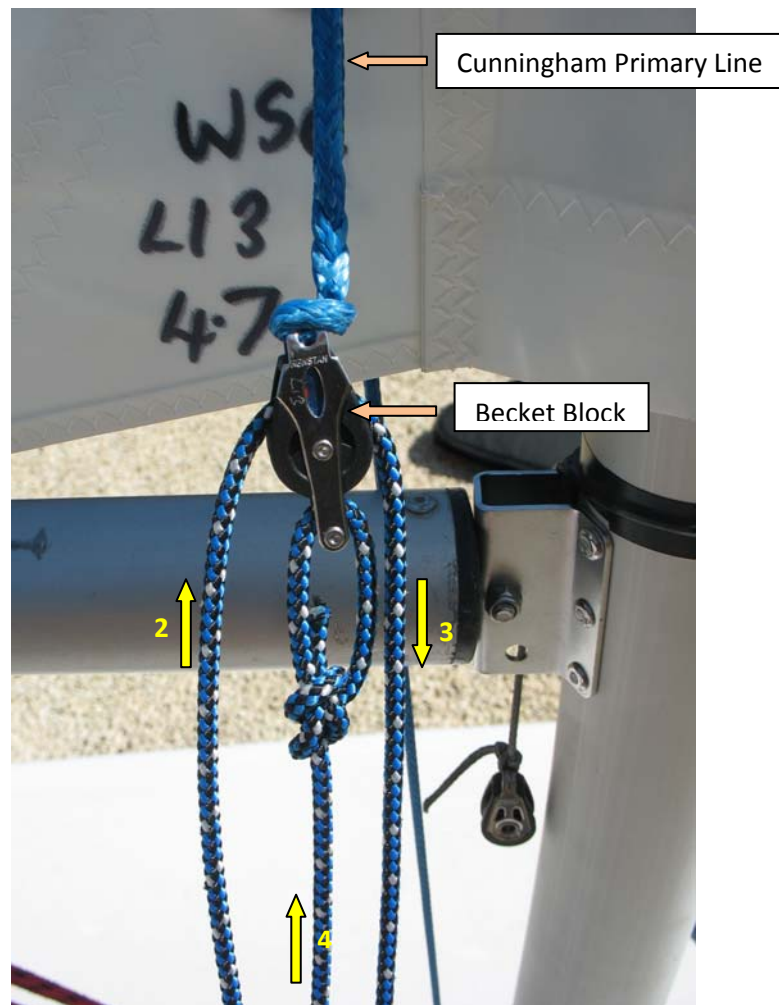
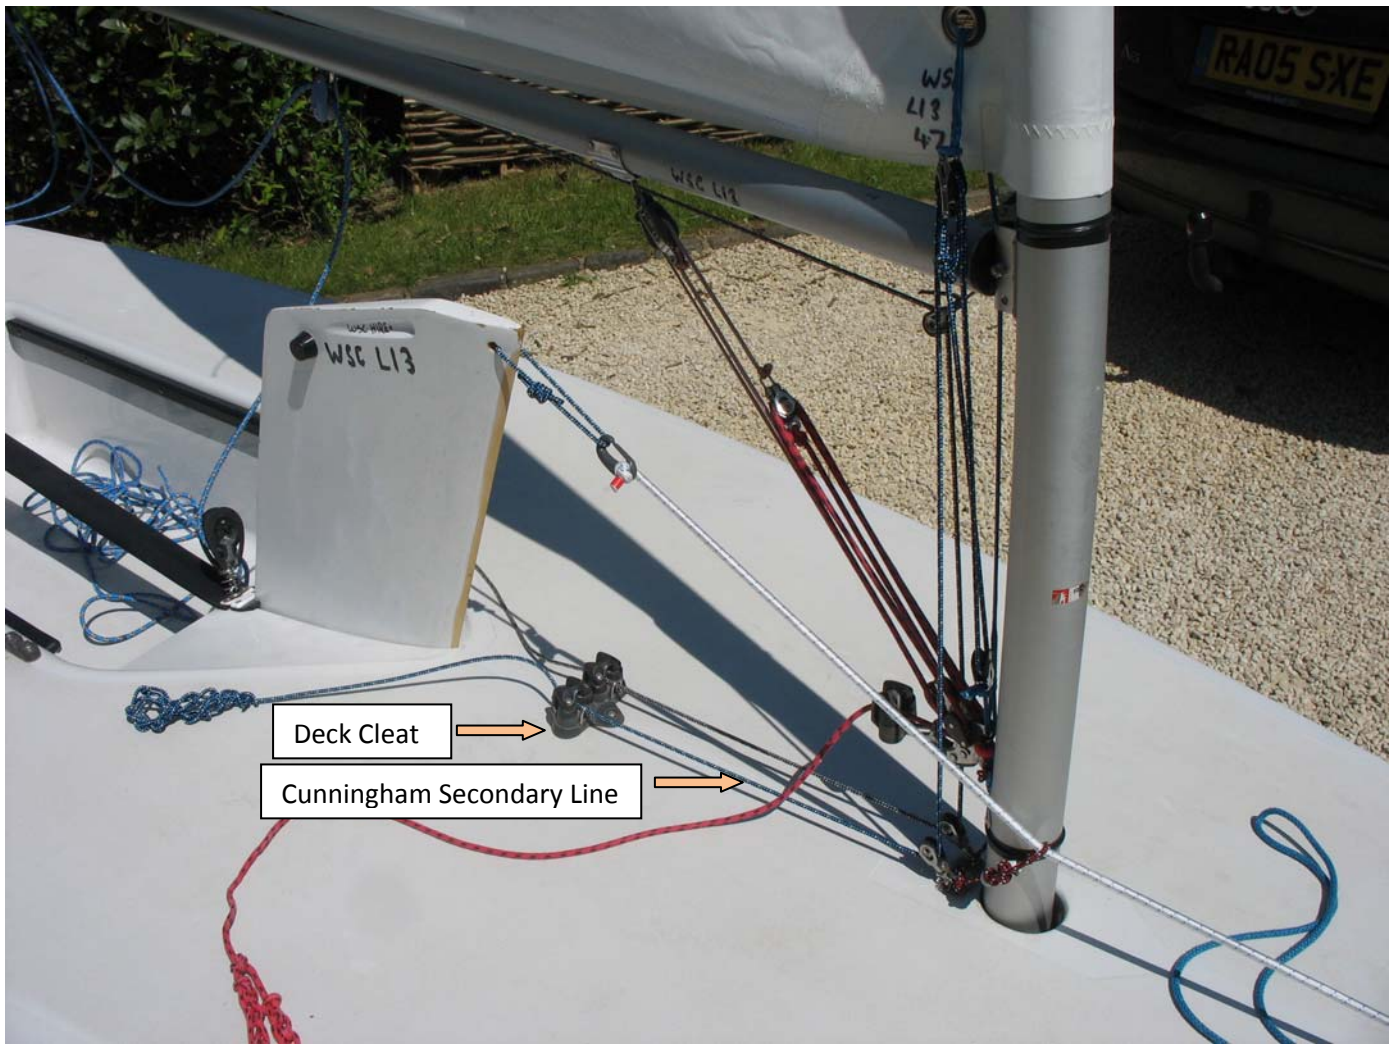

Figure 5
Figure 7. All Rigged and Ready To Go (looking aft)
Once the becket block is in place on the starboard side of the sail (figure 4), it is now time to attach the secondary Cunningham rope (which should be found in the black combi bag – blue rope with black and white flecks) (see figures 5 & 6).
Pass the secondary rope from back to front through the starboard deck cleat that is in front of the cockpit (see figure 7), then forward (1) and through the starboard block that is fixed to the deck at the foot of the mast (Cunningham Deck Block). Take the rope up (2), through and round the becket block from back to front, then down (3) and through the block (from front to back) that is fixed to a blue rope (Tang) just below the kicker (Cunningham Tang Block). Finally take the end of the rope back up (4) to the becket block and secure the end to the lower bracket on the bottom of the becket block with either a bowline or figure-of-eight knot (numbers in brackets refer to direction arrows in figures 5 & 6).